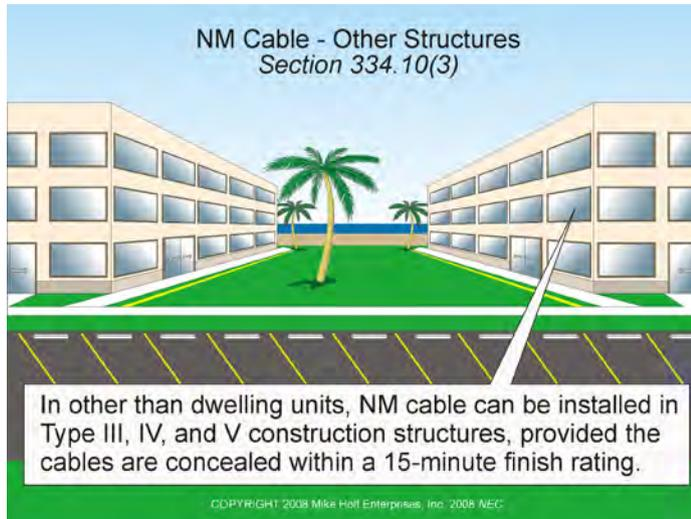

Figure 334-3
- (3) Other structures permitted to be of Types III, IV, and V construction, except as prohibited in 334.12. Cables must be concealed within walls, floors, or ceilings that provide a thermal barrier of material with at least a 15-minute finish rating, as identified in listings of fire-rated assemblies. **Figure 334-3**